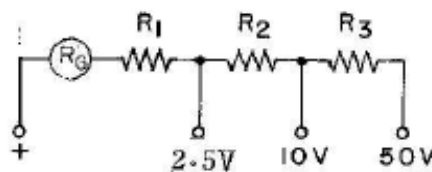

Fig. 5. The configuration of the internal resistors in a multi-range voltmeter.
4. The structure of multi-range voltmeter is shows in Fig. 5. To satisfy the range 2.5V, 10V, and 50V, what is the magnitude of the resistances R_1 , R_2 , and R_3 should be?